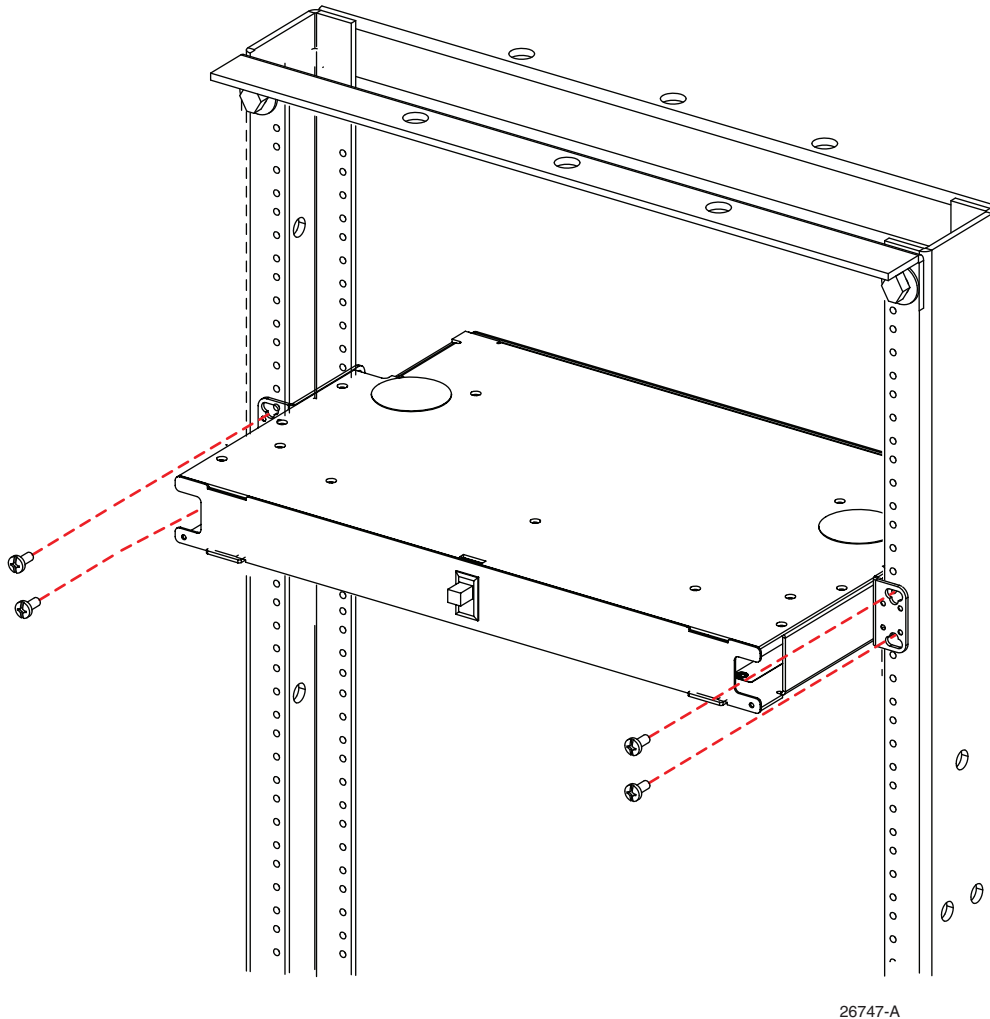

Figure 3. Mounting the Panel on a Frame
6. Insert two #12-24 screws supplied through the mounting bracket at each side of the chassis and in the frame as shown in Figure 3.